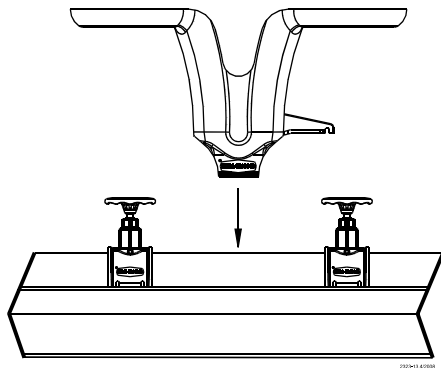

Figure 19. ADVANTI-FLOW Cup Installation
3. Turn pipe assembly over and install cup over the water pipe. The cup is to be located between a pair of saddle assemblies, See Figure 19.